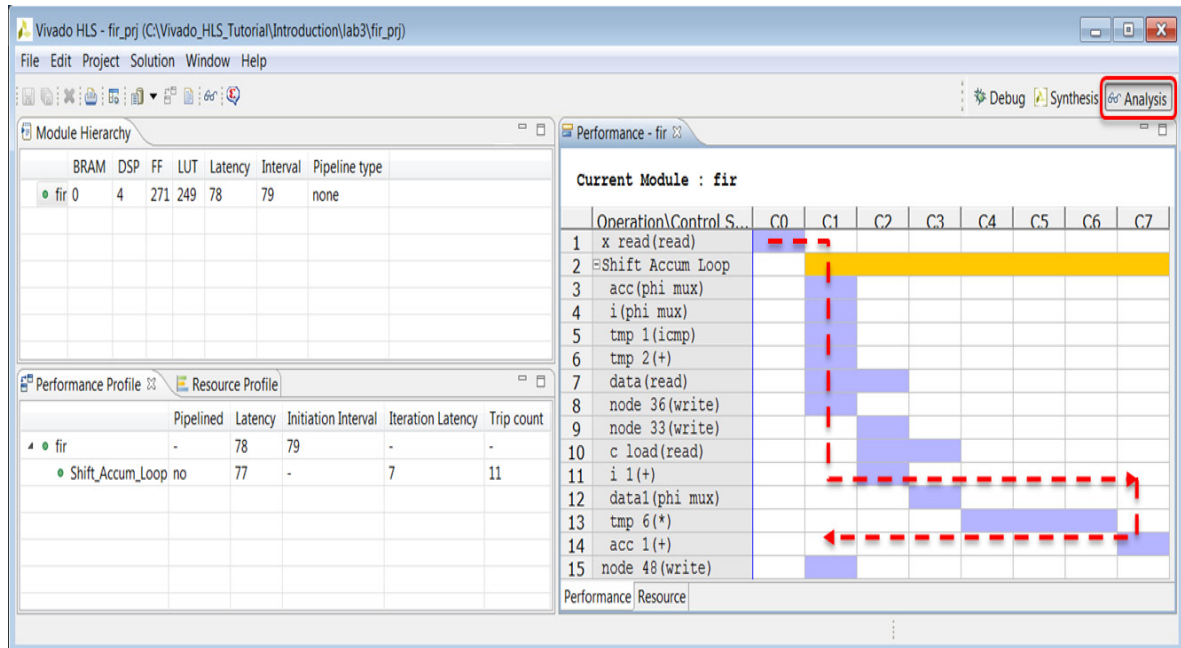

Figure 2-25: Solution2 Analysis Perspective: Performance
While still in `solution2`, and as shown in Figure 2-25:
- The red-dotted line in Figure 2-25 is used shortly in an explanation; it is not part of the view.
The explanation presented here follows the path of the dotted red line in Figure 2-25. Some of the objects here correlate directly with the C source code. Right-click the object to cross-reference with the C code.